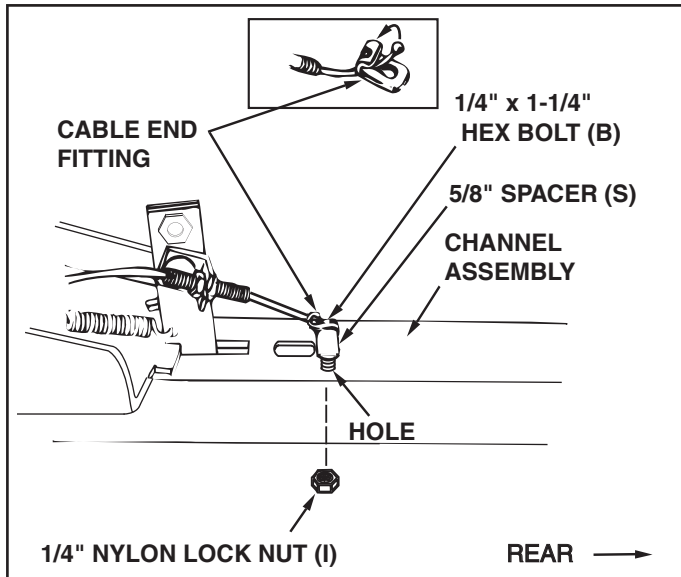

FIGURE 18 (Left Hand Side View)
STEP 18: (SEE FIGURE 18)
- Assemble 1/4" x 1-1/4" hex bolt (B) down through the cable end fitting, the 5/8" long spacer (S) and the left hand hole in the channel assembly. Secure with a 1/4" nylock nut (I). **Tighten.**